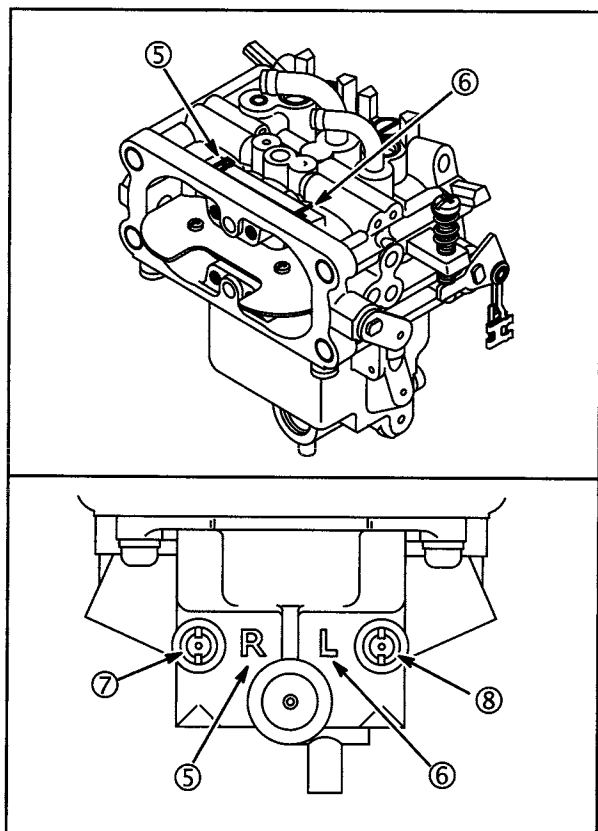

Fig. 61
3. Remove fixed main jets (7, 8), **Fig. 61**.
**NOTE:** The carburetor is equipped with a different size fixed main jet for each cylinder. The carburetor is marked **L** (6) for the #1 cylinder and **R** (5) for the #2 cylinder.
The carburetor is marked in the upper body near the choke plate and the lower body near the main jet plugs. See **Fig. 61**.